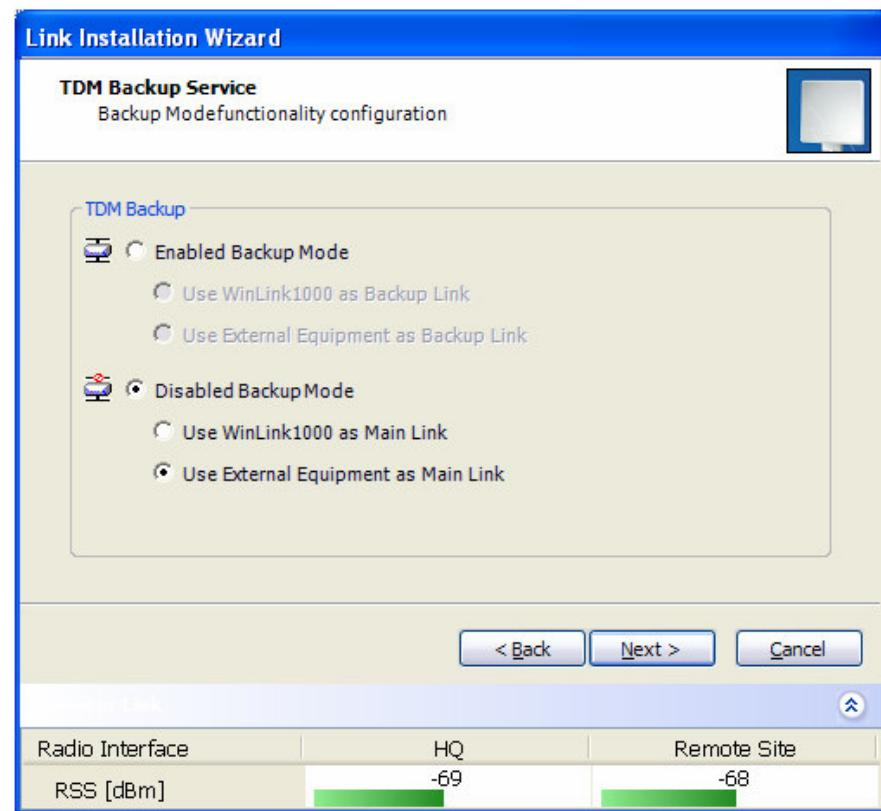

Figure 3-18: TDM Backup Service, IDU-R units only
*Figure 3-18* shows the TDM Backup Service screen.